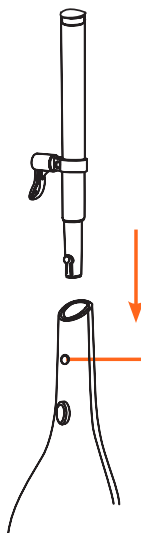

Figure 2
STEP 2: Insert the assembled handle section into the steam cleaner main body until it clicks into place (figure 2).